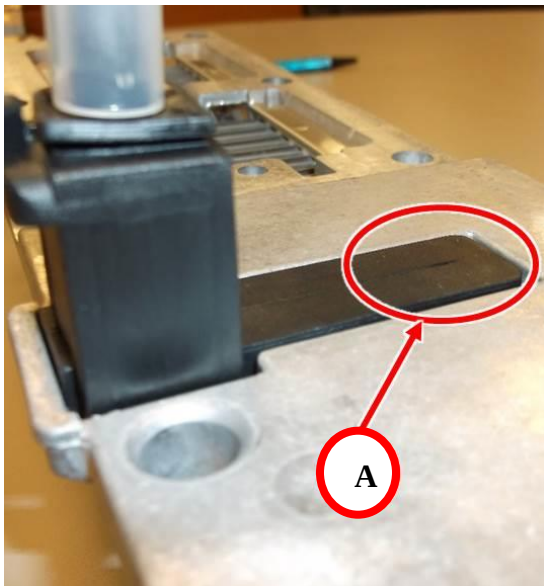

Figure 1
1. Inspect the grid heater power terminal located on the intake manifold cover for the plastic over-mold being deformed as well as the power feed cable for signs of terminal sealant flow from the terminal sleeve (See Figure 1 and 2).